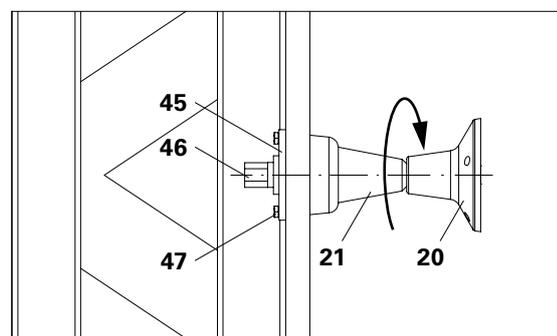

Fig. A5.09
1. Insert the Advancing Bolt M24 (46) from the rear side of the formlining through the drilled hole.
2. From the front side of the formlining, tightly screw on the anchor (20 + 21). (Fig. A5.09)
3. Firmly connect the Threaded Anchor Plate (20) to the reinforcement to ensure a secure position.